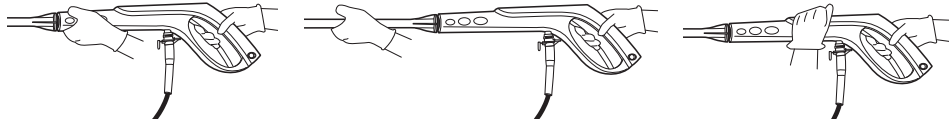

Fig. 38
- > Turn the on/off switch (7) to "ON/I" (on).
- > Hold the spray gun (2) with both hands (Fig. 38). Direct the water jet to the object to be cleaned and press the trigger (2d).